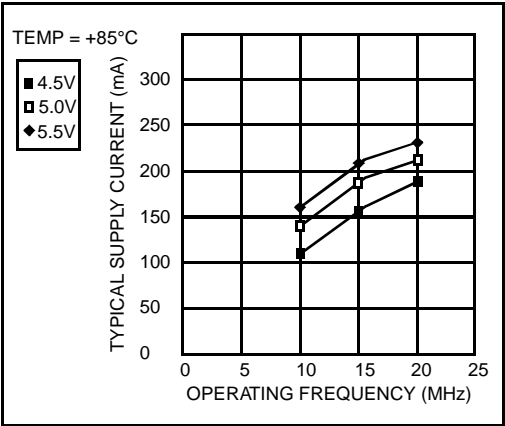
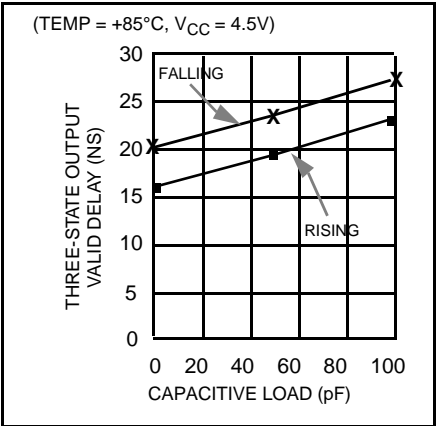

Figure 8. Typical Current vs. Frequency (Hot Temp)
Figure 9. Capacitive Derating Curve
For a given output current (I_{OL}) the curve in Figure 8 shows the worst case output low voltage (V_{OL}). Figure 9 shows the typical capacitive derating curve for the 80960SA measured from 1.5V on the system clock (CLK) to 0.8V on the falling edge and 2.0V on the rising edge of the bus address/data (AD) signals.